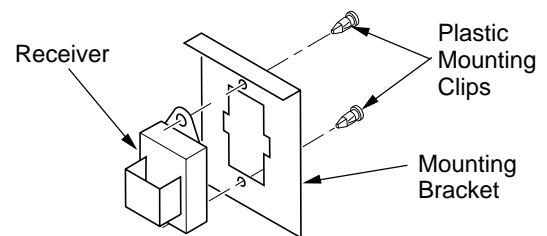

Figure 15 - Installing Remote Receiver (Shown from Rear of Mounting Bracket)
3. Install remote receiver unit onto mounting bracket using the two plastic mounting clips (see Figure 15).